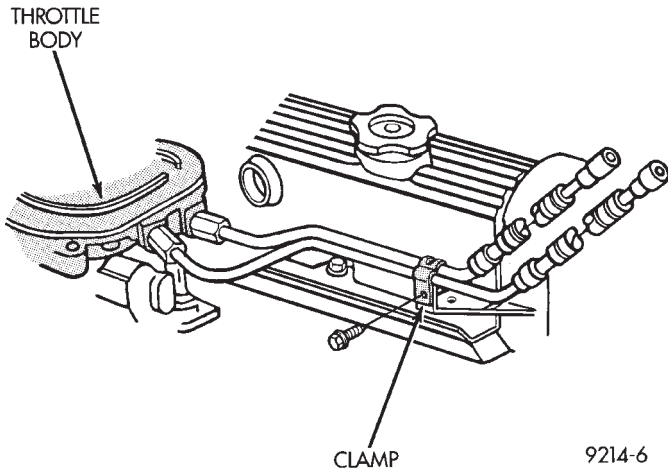

Fig. 4 Fuel Line Clamp
- (5) Remove throttle cable. If equipped, remove the speed control and transmission kickdown cables.
- (6) Remove return spring.
- (7) Loosen fuel tube clamp on valve cover (Fig. 4).